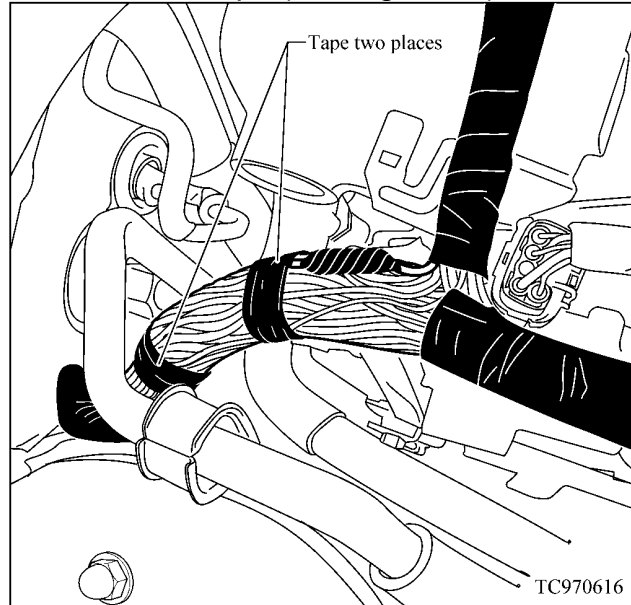

Figure 10
13. After completing the wire repair, tape the exposed harness wire bundle at two intermediate points with electrical tape (see Figure 10).